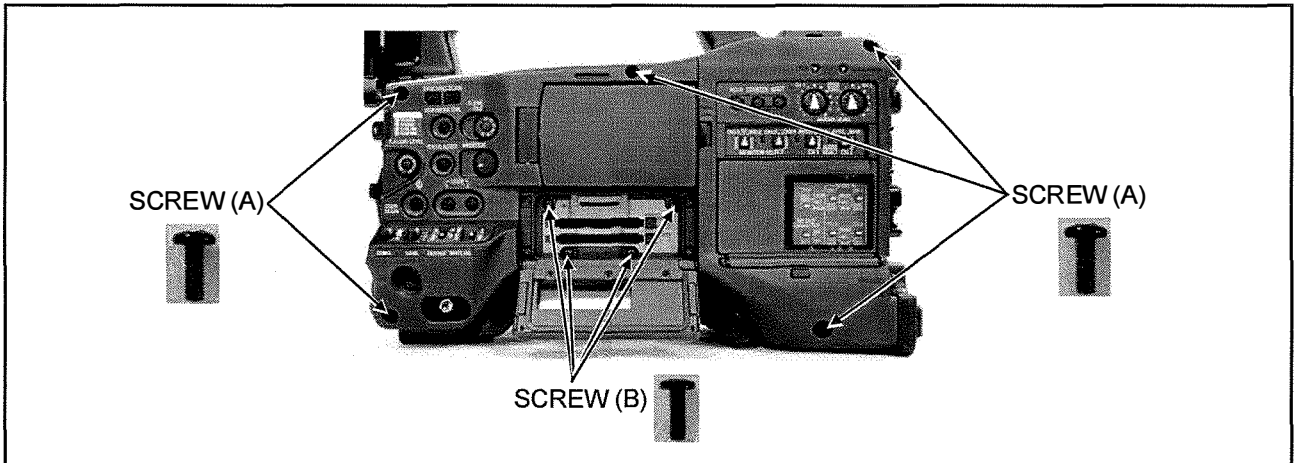

Figure 3-1
1. Unscrew the 5 screws (A) and the 4 screws (B) as shown in figure 3-1, and open the SIDE CASE R S Unit.